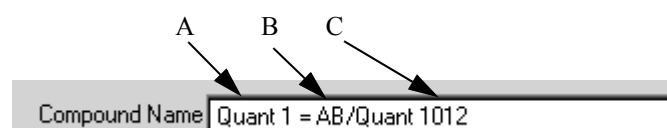

Figure 29: Example of an information input
Select the *Add Information* command in the *Edit* menu. Enter the following data into the *Compound name* line (figure 29): name of the OPUS function (A), result data block (B) as well as the corresponding element from the QUANT report (C), i.e. main report number, sub-report number, line, column.